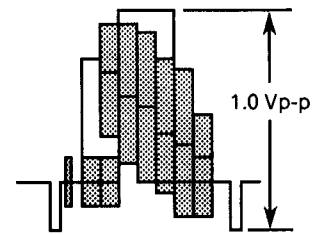

Figure 2-5.
9. Make sure that the amplitude of the playback colour bar signal is $1.0 \pm 0.04Vp-p$ as shown in Figure 2-5.